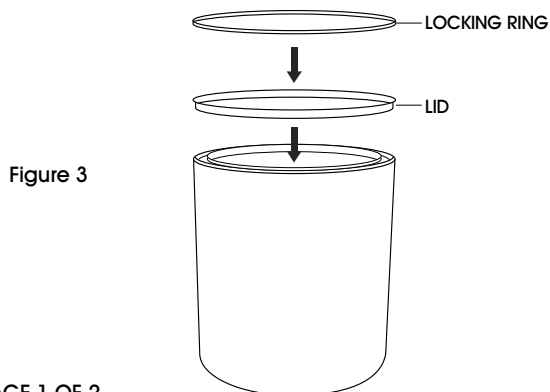

Figure 3
4. Secure lids completely on cans by applying even pressure with a paint can closer until lids are fully nested. (See Figure 3)
5. Align locking rings evenly over can lids and secure by applying even pressure with a paint can closer. Make sure rings snap into place. (See Figure 3)